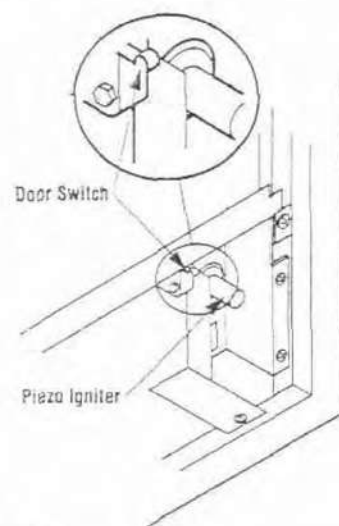
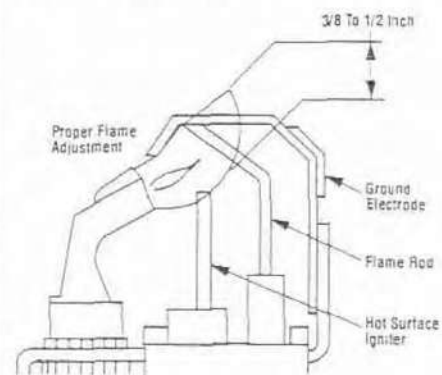

Figure 42
Figure 43
***Note:** To operate the appliance while leak testing, ensure that the door switch is depressed or the unit will not light (refer to Figure 42).
To light the burner; turn "ON" the remote wall switch, manually depress and hold the door switch (Figure 42) and rotate the gas valve control knob counterclockwise to the "ON" position.
To light the burner, turn "ON" the optional remote wall switch, manually depress and hold the door switch (Figure 42) and turn the gas control switch to the "ON" position. Ensure the ignitor lights the pilot. The pilot flame should engulf the flame rod as shown in Figure 43.